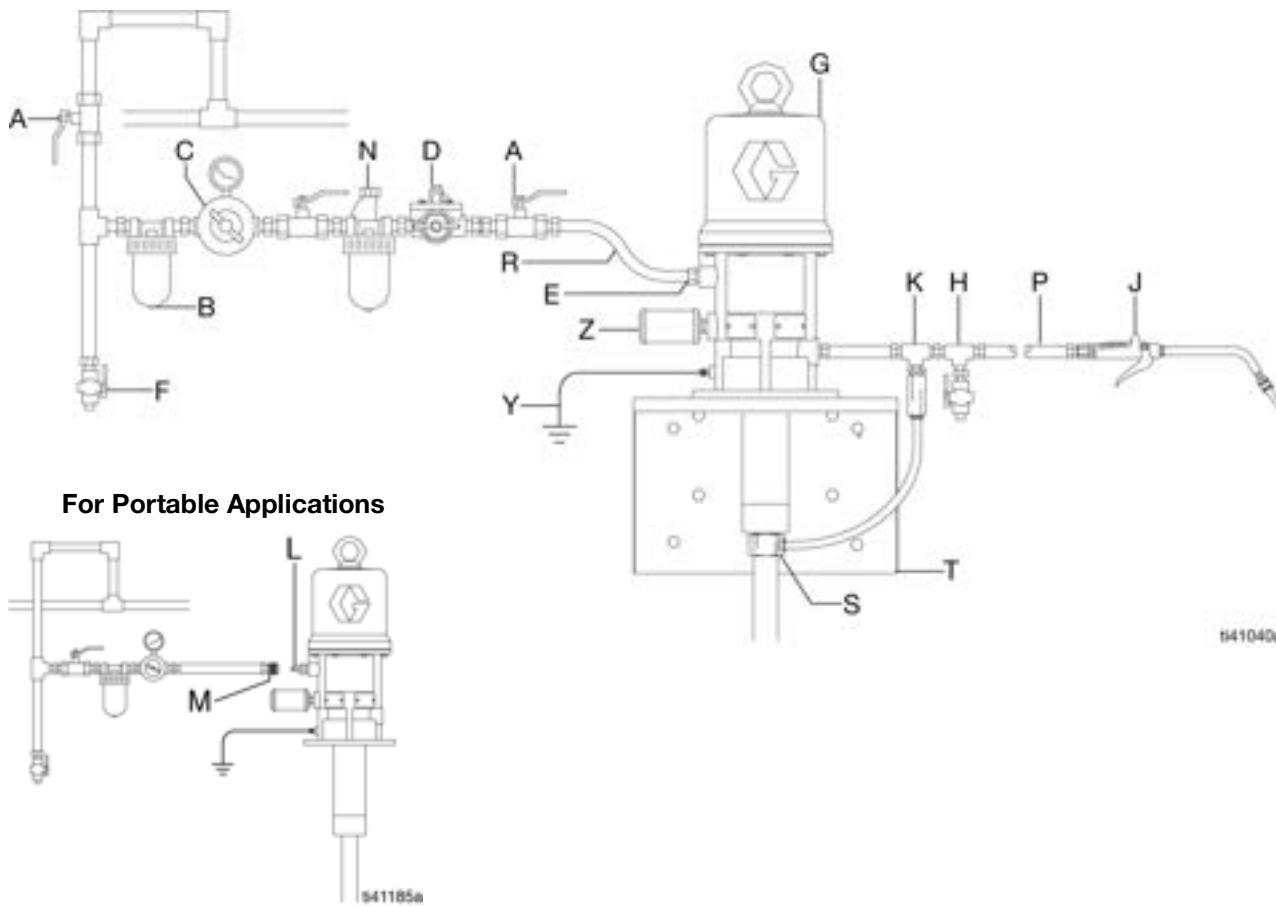

FIG. 1: Typical Installation
The typical installation shown in FIG. 1 is only a guide for selection and installation of a pump. It is not an actual system design. Contact your Graco representative or Graco distributor for assistance in the design of a suitable system.
Install the accessories shown in FIG. 1.
- Insert the muffler (5) into the 3/4 npt muffler port and tighten using a wrench on the flats of the muffler near the male threads.
- Install an air line lubricator (N) for automatic air motor lubrication.
- Install an air regulator (C) to control the pump speed and pressure.
- Install an air line filter (B) to remove harmful dirt and contaminants from the compressed air supply.
- Install bleed-type master air valve (A) to relieve air trapped between it and the motor when the valve is closed, and to isolate the accessories for servicing. See FIG. 1. To order a bleed-type master air valve, order Part No. 107142.
As an alternative to a bleed-type master air valve, installation of an air line female quick-disconnect coupler (M) and male quick-disconnect pin fitting (L) (see FIG. 1) can serve as an air-bleed device.
- Install a ball valve (F) at the end of the line drop for releasing moisture that collects in the line (FIG. 1).
- Install a drain valve (H) near the pump fluid outlet to relieve fluid pressure in the hoses and gun when opened. To order a fluid drain valve, order Part No. 210658.
- Install a pump runaway valve (D) to shut off the air to the pump if the pump accelerates beyond the pre-adjusted setting, which can be caused by a depleted fluid supply. A pump that runs too fast can be seriously damaged. To order a 3/4 npt(f) inlet and outlet pump runaway valve, order Part No. 215362.
- Install a thermal relief kit (K) on the dispensing valve side of the pump. To order a 1600 psi (11 MPa, 110 bar) thermal relief kit, order Part No. 240429.
- Install a suitable fluid hose (P) and dispensing valve (J).
The pump shown in FIG. 1 is a wall mounted universal pump, Model 205626. To order the wall mounting bracket, order Part No. 238425.